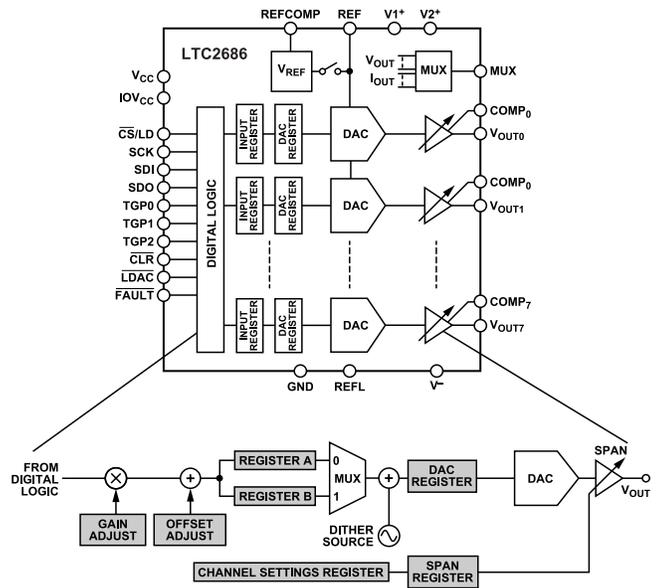

Figure 47. Block Diagram
- ▶ Input register: the write operation shifts data from the SDI pin into a chosen input register. The input registers are holding buffers. Write operations do not affect the DAC outputs directly. In the code datapath there are two input registers, A and B, for each DAC register. Input Register B is an alternate input register used only in toggle and dither operation, whereas Input Register A is the default input register (see Figure 47).
- ▶ DAC register: the update operation copies the contents of an input register to its associated DAC register. The content of a DAC register directly controls the DAC output voltage or range. The update operation also powers up the selected DAC if it was in power-down mode. The data path and registers are shown in Figure 47. Updates always refresh both code and span data, but the values held in the DAC registers remain unchanged unless the associated input register values have been changed via a write operation. For example, writing a new code and updating the channel updates the code, but the span is unchanged. A channel update can come from a serial update command, an LDAC negative pulse, or a toggle operation.
The LTC2686 supports offset and gain adjustment for each individual DAC channel. Note that the gain operation is performed before the offset correction (see Figure 47). The adjusted DAC code is calculated by multiplying the code data, D[15:0], by the gain adjust code, G[15:0], and then adding the offset adjust code, O[13:0].